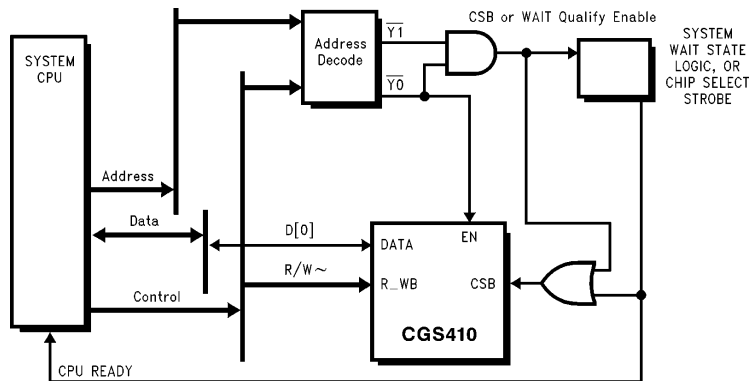

FIGURE 3-12. Serial Interface Example
Figure 3-12 illustrates a generic hardware system implementation where the CGS410 control signals are qualified through a memory map. In this example, the CGS410 is mapped into two address locations. This particular mapping scheme allows:
- 2) transfer operations to execute through the second mapped port (see Figure 3-12).